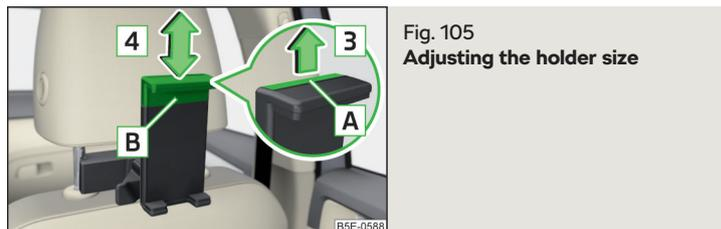

Fig. 105 Adjusting the holder size
- ▶ **To adjust the holder size**, pull out the securing tab **A** in the direction of arrow **3** and push the part **B** in the direction of arrow **4** to the desired position » Fig. 105.